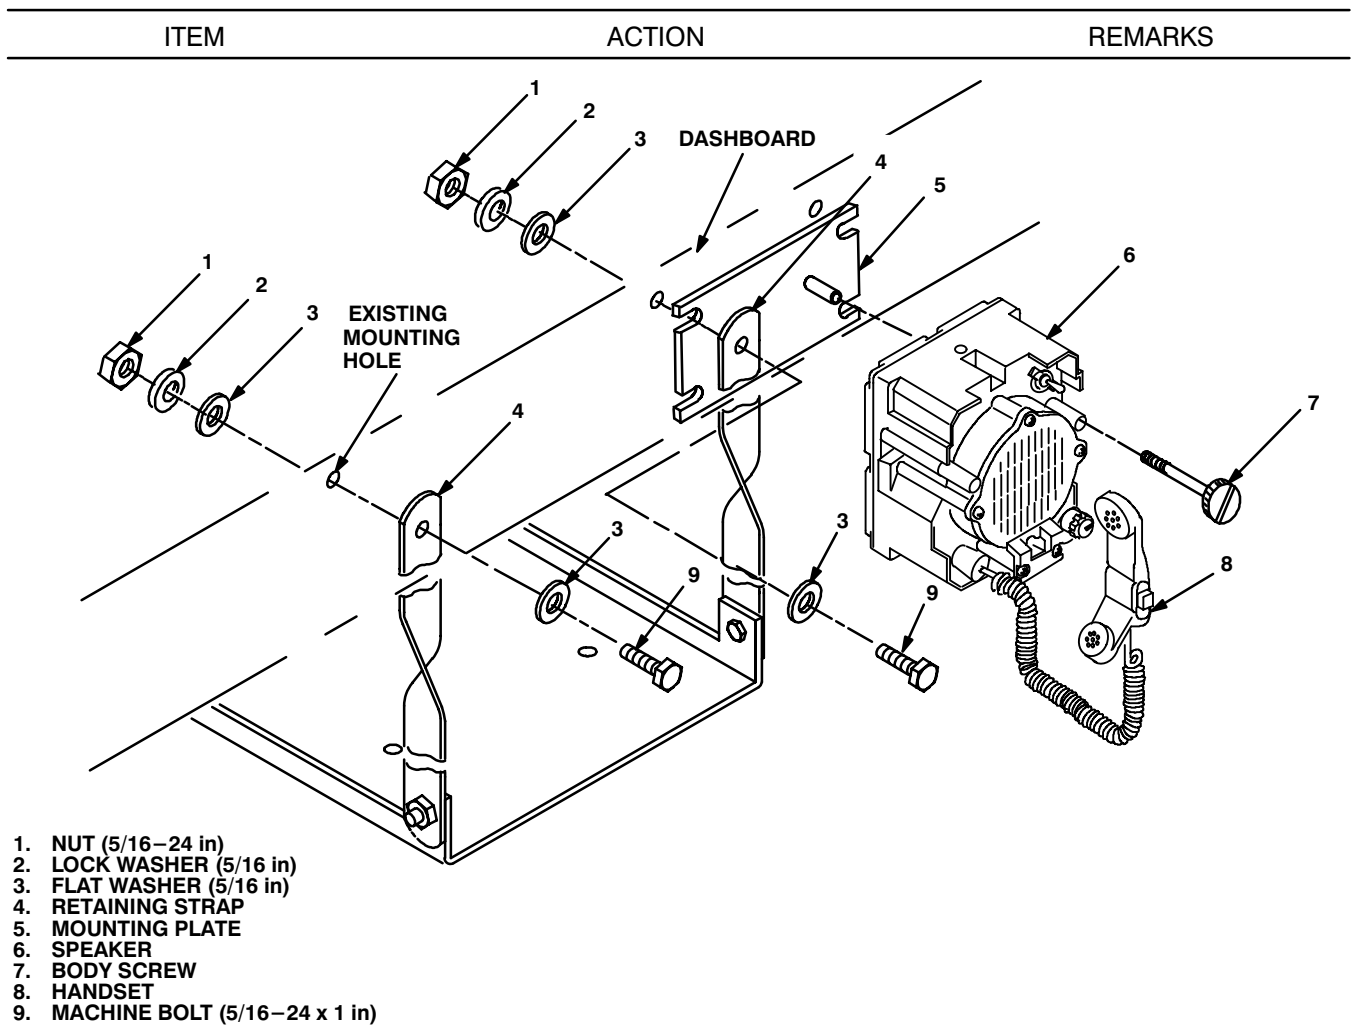

Figure 5-4 (3). Equipment Shelf and Speaker Installation: Installing Speaker
| l. Speaker (6). | Place on mounting plate (5). See Figure 5-4(3). | |